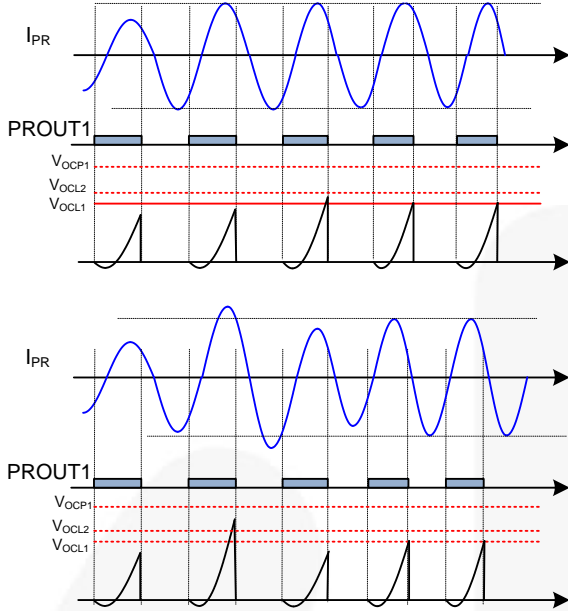

Figure 64. Current Limit of the ICS Pin by Frequency Shift (Compensation Cutback)
(1) SR Gate Shrink: To guarantee stable SR operation during light load operation, the SR dead time (both of turn-on and turn-off transitions) is increased resulting in SR gate shrink when V_{ICS} peak value drops below V_{TH1} (0.2 V). The SR dead time is reduced to the programmed value when V_{ICS} peak value rises above 0.25 V.
(2) SR Disable and Enable: During very light-load condition, the SR is disabled when the V_{ICS} peak value is smaller than V_{TH3} (0.075 V). When the V_{ICS} peak value increases above V_{TH2} (0.15 V), the SR is enabled.
(3) Over-Current Limit: The V_{ICS} peak value is also used for input current limit. As can be seen in 0, there exist two different current limits (fast and slow). When the V_{ICS} peak value increases above the slow current limit level (V_{OCL1}) due to a mild overload condition, the internal feedback compensation voltage is slowly reduced to limit the input power. This continues until the V_{ICS} peak value drops below V_{OCL1} . During a more severe over load condition, the V_{ICS} peak value crosses the fast current limit threshold (V_{OCL2}) and the internal feedback compensation voltage is quickly reduced to limit the input power as shown in Figure 64. This continues until the V_{ICS} peak value drops below V_{OCL2} . The current limit threshold on the V_{ICS} peak value also changes as the output voltage sensing signal (V_{FB}) decreases such that output current is limited during overload condition as shown in 0. These limit thresholds change to higher values ($V_{OCL1.BR}$ and $V_{OCL2.BR}$) when the converter operates in deep below resonance operation for a longer holdup time (refer to holdup time boost function).
(4) Over-Current Protection (OCP1): When the V_{ICS} peak value is larger than V_{OCP1} (1.9 V), the over current protection is triggered. 150 ns debounce time is added for over-current protection. These OCP threshold changes to a higher value ($V_{OCP1.BR}$) when the converter operates in deep below resonance operation for a longer holdup time (refer to holdup time boost function).